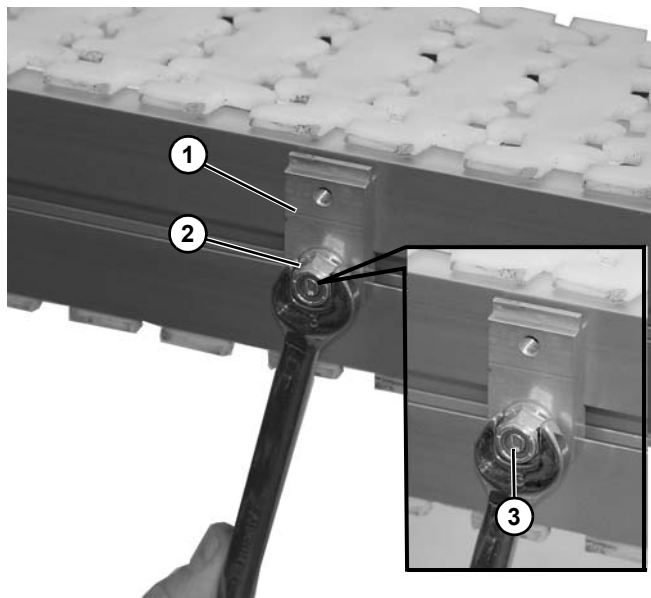

Figure 74
3. Fasten retaining clip (Figure 74, item 1) to conveyor with nut (Figure 74, item 2) on stud.
Be certain that slot (Figure 74, item 3) is close to vertical when finished tightening nut.
4. Tighten nuts (Figure 74, item 2).